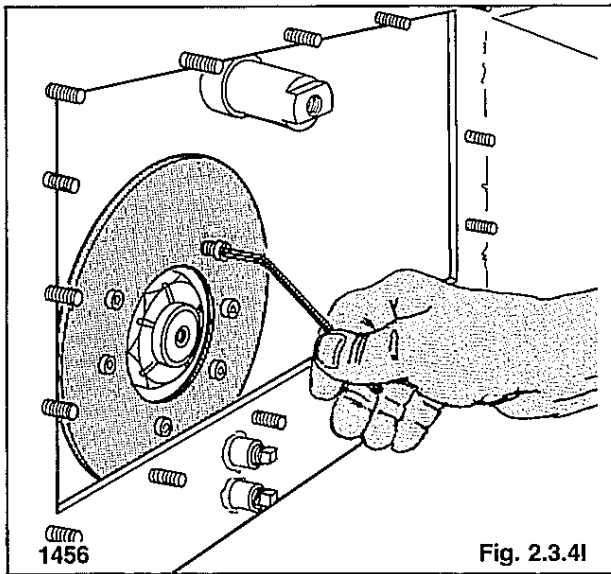

Fig. 2.3.4l
11. Install the brake disc on the torque motor sprocket. Apply Loctite RC609 to the allen screws on assembly (fig. 2.3.4l).